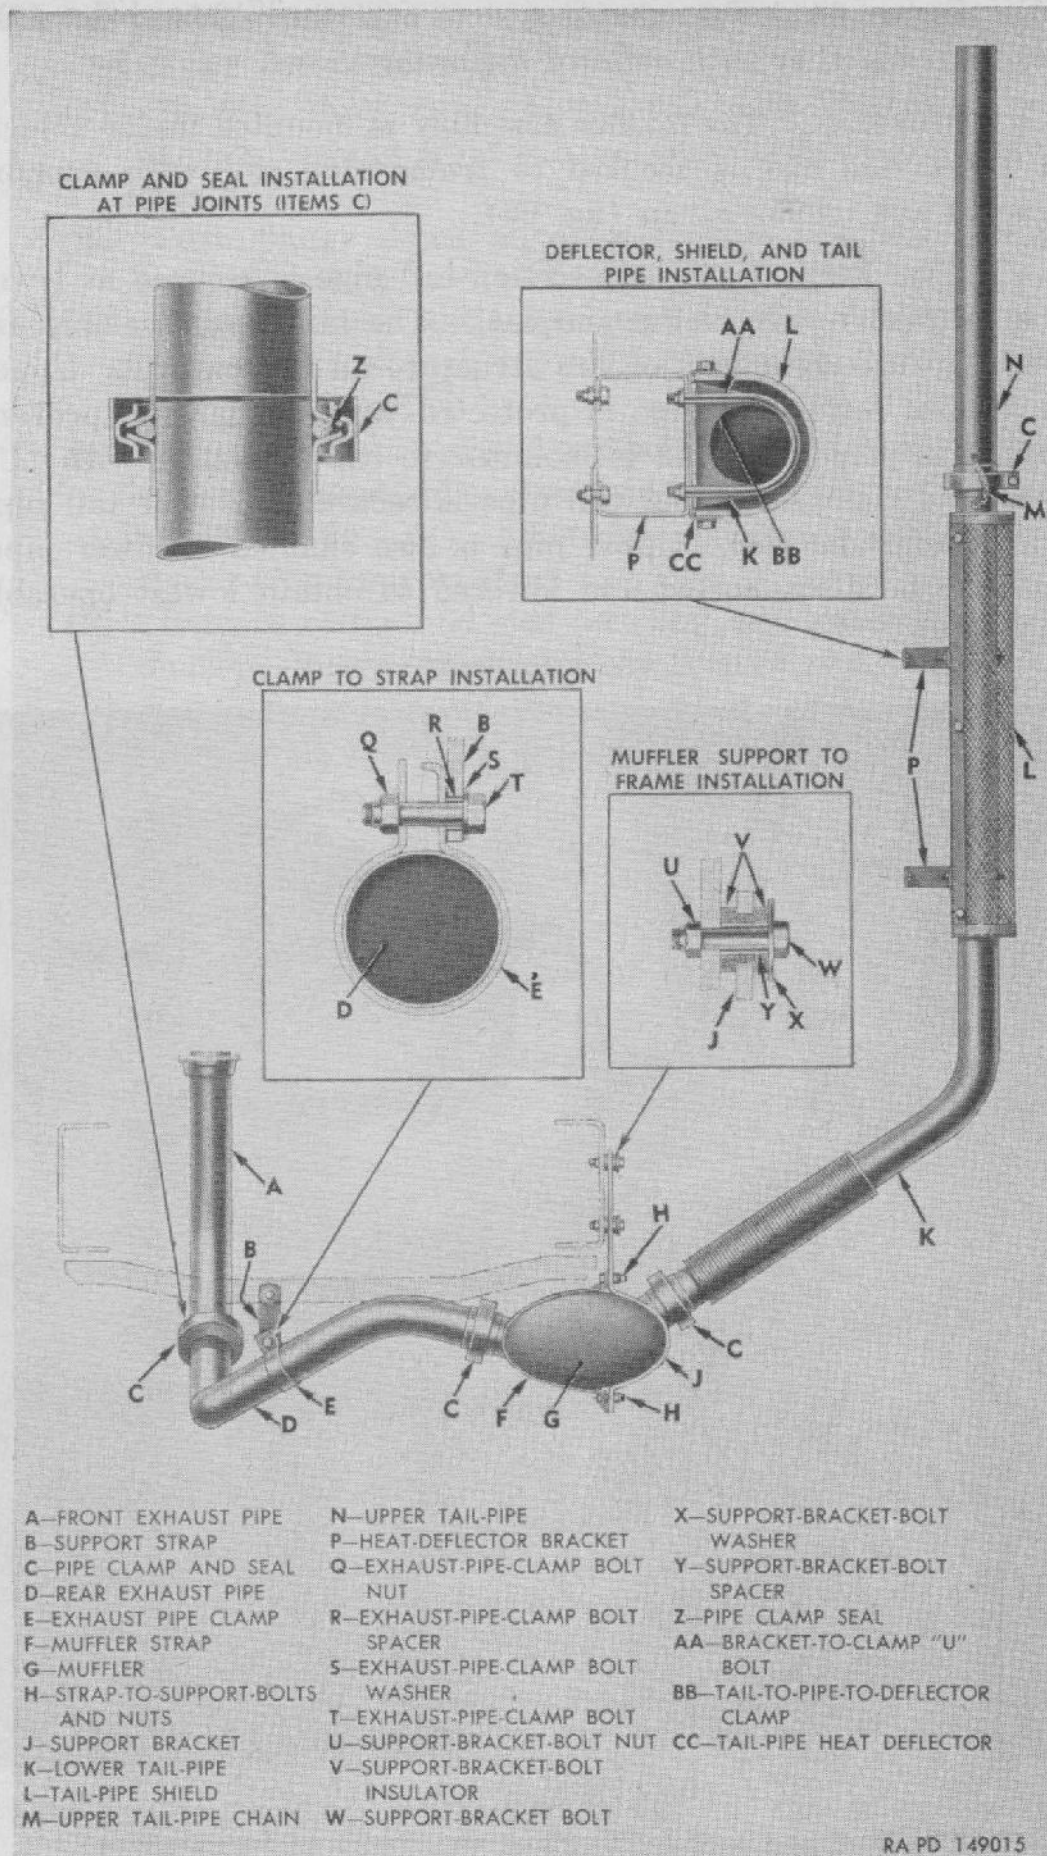
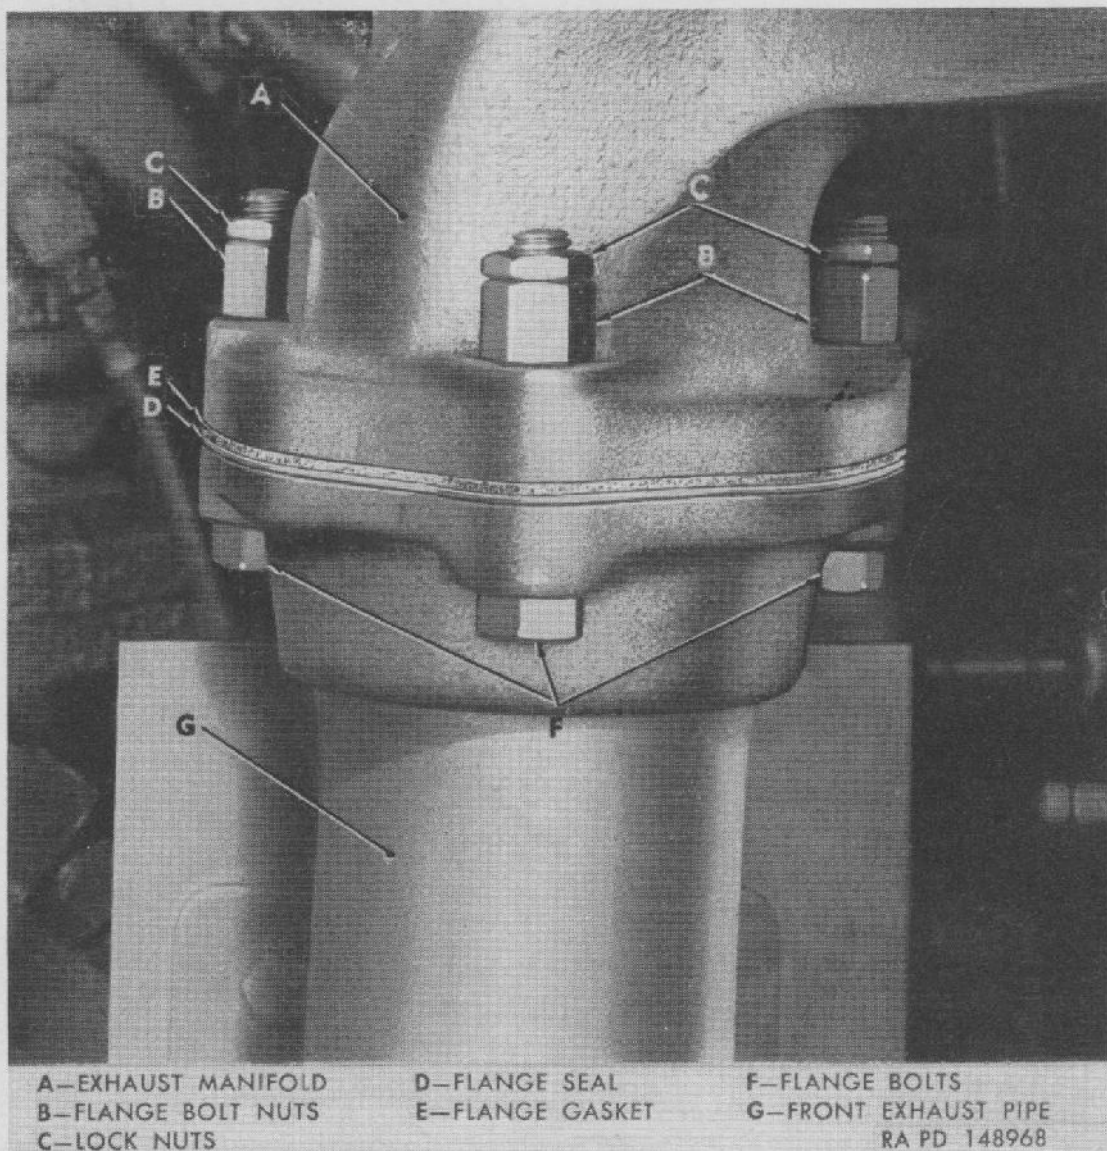

Figure 64. General arrangement of exhaust system units.
Figure 65. Exhaust pipe to manifold connection.
a. EXHAUST PIPES. The front exhaust pipe is flange mounted to engine exhaust manifold (fig. 65) and secured to rear exhaust pipe with a clamp and seal. Rear exhaust pipe is supported to cross member with support strap and exhaust pipe clamp. Rear exhaust pipe is attached to muffler with clamp and seal (fig.
66). Figure 64 shows exhaust system parts in relative assembled positions together with detailed mounting views.
- (1) Remove three flange bolts, nuts, and lock nuts from flange attaching front exhaust pipe to exhaust manifold (fig. 65).
- (2) Push flange down on exhaust pipe. Remove flange seal and gasket.
- (3) Remove clamp and seal attaching front exhaust pipe to rear exhaust pipe (fig. 64). Front exhaust pipe can then be removed.
- (4) Remove exhaust-pipe-clamp bolt, nut, and washer which attach exhaust pipe clamp to support strap at cross member (fig. 64). Remove exhaust-pipe-clamp-bolt spacer from support strap.
- (5) Remove clamp and seal securing rear exhaust pipe to muffler. Rear exhaust pipe can then be removed.
- (1) Attach rear exhaust pipe to muffler with pipe clamp and seal using new seal if old seal is damaged to such an extent that leaks may occur. Position seal as shown in figure 64 (item C). Tighten clamp bolt just sufficiently to prevent leakage.
- (2) Place washer and spacer on exhaust pipe clamp bolt in the order named (fig. 64). Line up exhaust pipe clamp holes with hole in support strap, insert bolt, and install nut. Do not tighten nut at this time.
- (3) Attach front exhaust pipe to rear exhaust pipe with clamp and seal in same manner as explained in (1) above.
- (4) At exhaust manifold (fig. 65), install flange seal and new flange gasket. Lift exhaust pipe flange against manifold and install three flange bolts and nuts. Tighten nuts evenly and firmly. Install and tighten lock nuts. At cross member, position exhaust pipe clamp on support strap so that no bind exists; then tighten clamp bolt nut firmly.
a. TAIL PIPE REMOVAL (fig. 64).
- (1) The two-section tail pipe, together with the heat deflector and shield, can be removed from cab and muffler
- (2) Remove clamp and seal attaching lower tail pipe to muffler.
- (3) Remove four bolts and nuts which attach heat deflector brackets to cab structure. Tail pipe assembly can then be removed from vehicle.
- (4) Remove six cap screws and washers which attach tail pipe shield to heat deflector. Shield can then be removed.
- (5) Remove nuts from "U" bolts which attach lower tail pipe to heat deflector.
- (6) Remove clamp and seal which connect upper tail pipe to lower tail pipe. Spread open retaining link at each end of upper tail pipe chain on upper and lower tail pipes if necessary to separate the two sections.
b. **TAIL PIPE INSTALLATION** (fig. 64).
- (1) Position heat deflector on lower tail pipe. Install two "U" bolts and clamps around tail pipe. Insert the threaded ends of "U" bolts through heat deflector; then install two heat deflector brackets. Tighten "U" bolt nuts just finger-tight.
- (2) Connect upper tail pipe to lower tail pipe with pipe clamp and seal, using new seal if old one is damaged to such an extent that leaks may occur. Tighten clamp bolt nut sufficiently to prevent leakage.
- (3) Connect flexible end of lower tail pipe to muffler with pipe clamp and seal, using a new seal if necessary.
- (4) Position tail pipe assembly on cab structure, and install four bracket-to-cab bolts and nuts. Tighten nuts firmly; then tighten clamp "U" bolts firmly.
- (5) Install the shield on heat deflector with three cap screws and lock washers on each side. Tighten cap screws firmly.